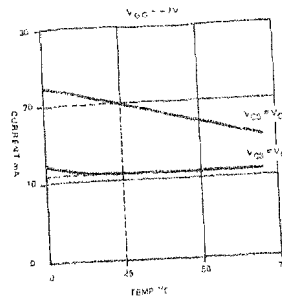

Fig. 9
- See also Typical 7-Segment Output Curves, Figs. 9, 11, & 13 (-12V \pm 1V)